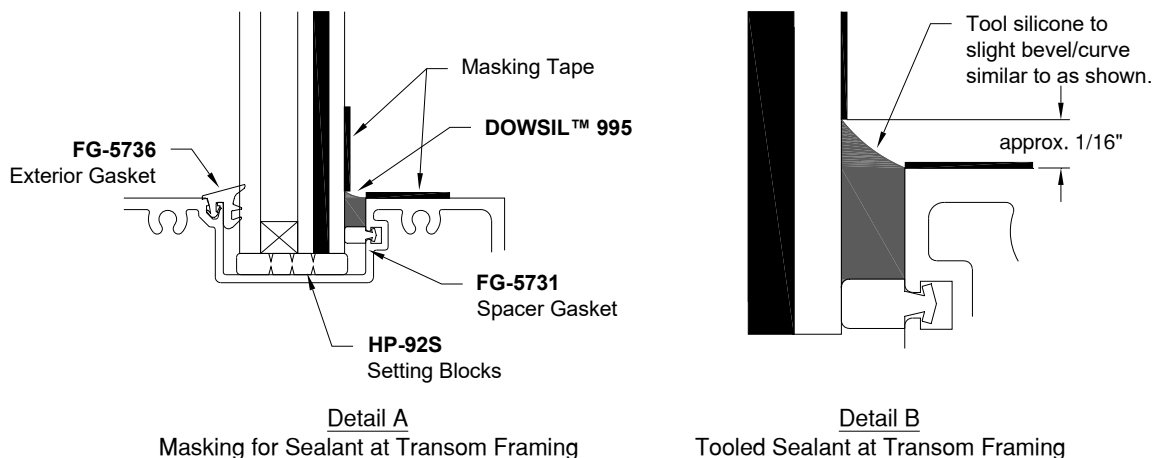

Figure 30: Glazing Interior of Transom
- 12.8.2 Clean glass and transom framing with isopropyl alcohol and mask off glass with 1" wide (minimum) low-adhesion masking tape. Reference *Figure 30, Detail A* for masking tape application location.
- 12.8.3 Fill cavity around full perimeter of D.L.O. with **DOWSIL™ 995** Silicone Structural Sealant, as shown in Figure 30; care should be taken not to leave any voids and eliminate air bubbles in sealant. Immediately tool, creating a finished joint with a beveled/curved joint surface similar to Figure 30 *Detail B*.